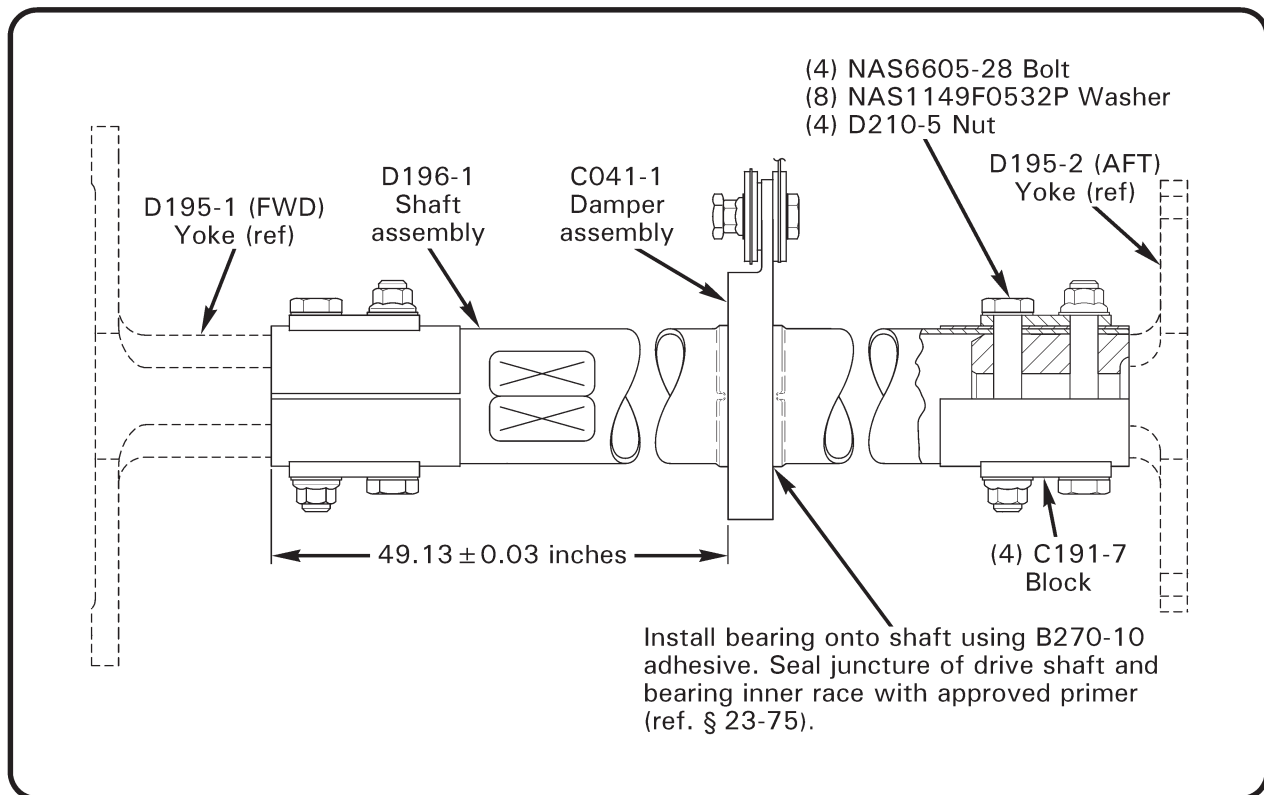

FIGURE 7-12A D196-1 TAIL ROTOR DRIVE SHAFT
- a) The two-piece tail rotor drive shaft consists of one C196-1 shaft, one C195-5 yoke, one C041-1 damper assembly, two C191-2 clamping blocks and associated hardware. See Figure 7-12A .
- b) The C041-1 damper bearing assembly is field replaceable; refer to Figures 7-12A and 7-12B for appropriate dimensional criteria.